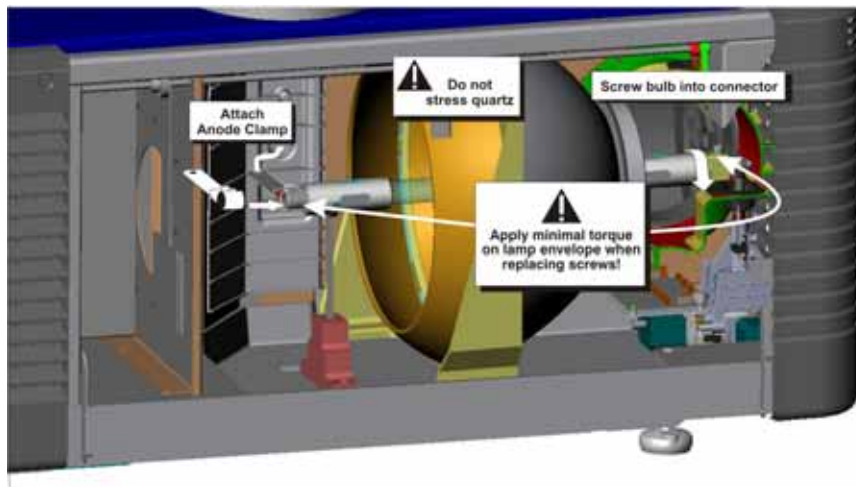

Figure 7-2 Installing the Lamp
- b. Insert the threaded cathode (-) end of the lamp into the negative lamp connector nut located in the rear of the lamp compartment. (Figure 7-2) Using both hands, hand-tighten this end into the threaded nut.
- d. Rest the anode (+) end of the lamp on the anode yoke and slip the positive lamp connector over the bulb end. (Figure 7-2) Using the 5mm Allen key, squeeze together with the anode clamp making sure not to place any torque on the lamp quartz tube. **Important!** For CDXL-30SD lamps, make sure the “flat” part of the anode end of the lamp (if applicable) is facing in the 10 or 2 o’clock position once the lamp finger is installed in the 14mm threads and the clamp screw is tightened. For all other lamp types, keep the “flat” part of the anode end of the lamp facing up. **WARNING! Explosion hazard - Do not apply torque to the anode end of the lamp.**